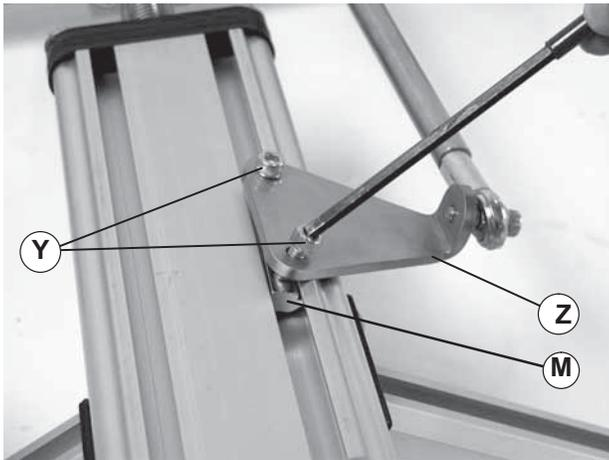

Figure 6
- b. Attach support stand tie plate (Figure 6, item Z) to the t-bar (M) with two (2) socket screws (Y).
- c. Tighten screws (Figure 6, item Y) to 100 in-lb (11 N-m).